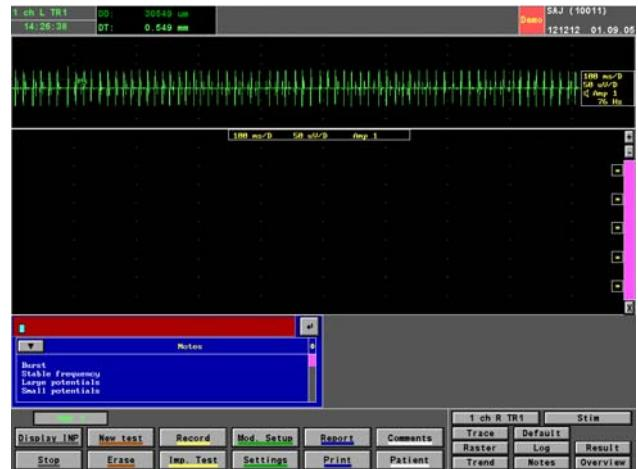

Figure 30 Position Display included DD and DT in the upper-left part of the screen
If such an option is active and working faultlessly, the Position Display has the following form, see Figure 30 below:
sition Display , see Figure 30 above. The Distance to the Target (DT) value is displayed in green figures. When the position is changed, the color turns yellow and remains so, until a full sweep is recorded (typically 10 seconds). During this period of time, it is recommended not to save the signal as it represents different positions and may include movement artifacts stemming from the electrodes. For the same reason, continuous recording is as default not active while this display is yellow. To